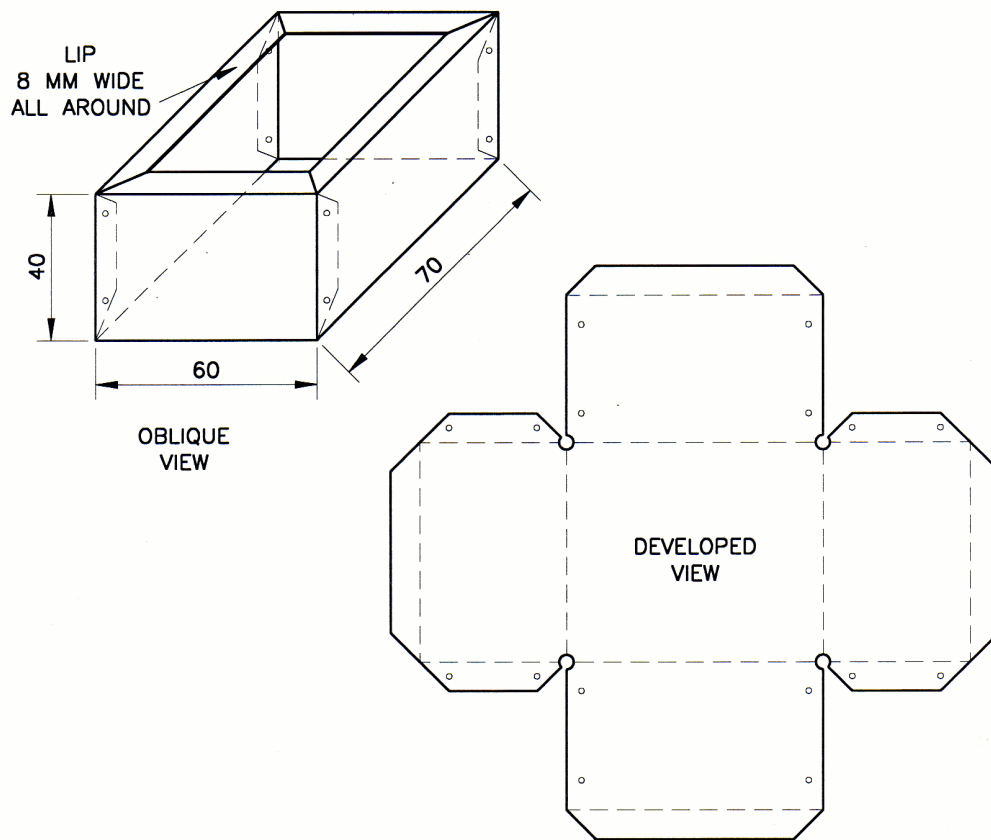
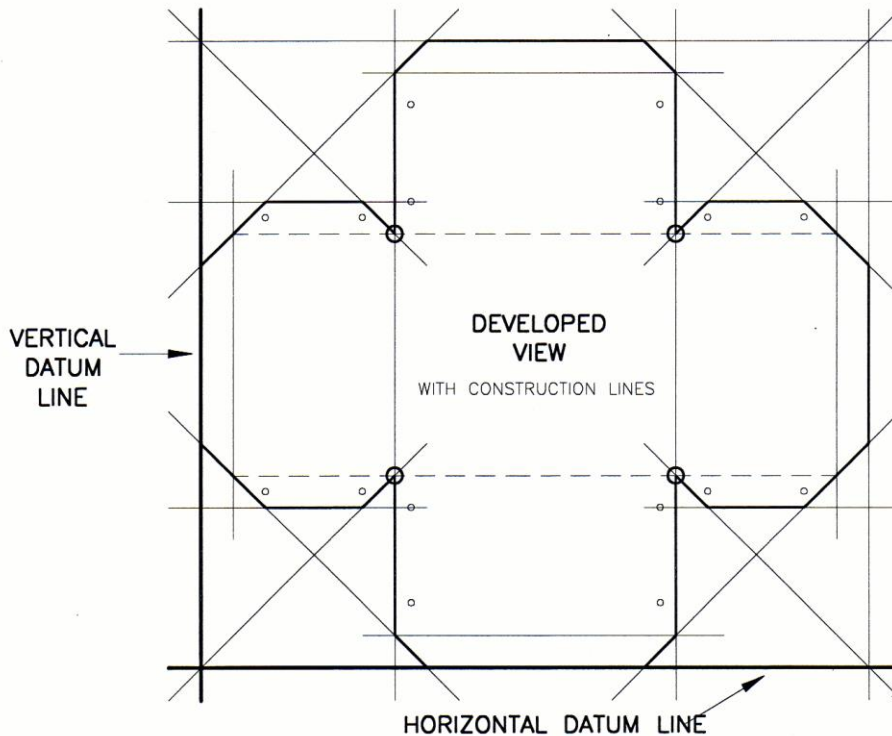

Figure 1 - Oblique view and the corresponding development.
Figure 2 - Construction of a development of a box.
11. If you need to mark out a three dimensional object (such as a box) on a two dimensional plane (such as a piece of flat sheetmetal) you need to mark out the shape as a 'development'. A development or developed view is a view which shows all surfaces opened out flat or unfolded. Figure 1 shows an oblique view of a small sheetmetal box and the corresponding development at a scale of 2:1. The dotted lines on the development represent the lines along which the material is to be folded - in this case all folds are inwards.
12. Figure 2 shows how the development was constructed. A critical feature of this type of development is the need to begin by constructing a horizontal datum line and a vertical datum line - all subsequent measurements should be taken from either of these two lines.
15. **Exercise** Draw a development of the box shown in Figure 1 on a sheet of A4 paper. Use Figure 2 as a guide, but draw your development full size. When you have drawn the development, cut it out and fold the paper to the required shape to check that your marking out has been accurate.